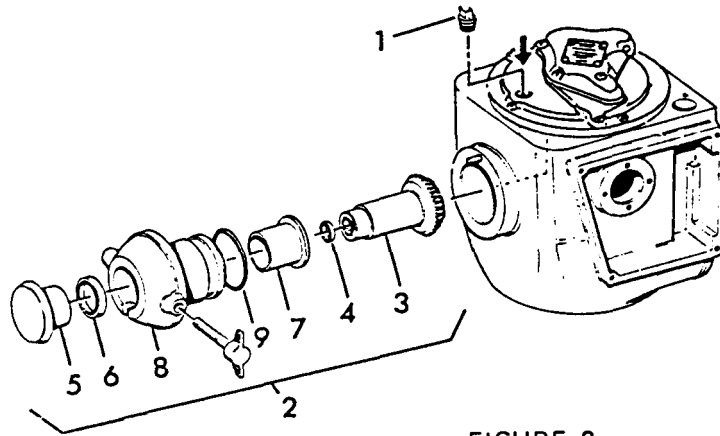

FIGURE 2
- A. REMOVE OIL FILLER PLUG (1, FIGURE 2), INSERT 3/8 INCH LONG STEMMED ALLEN WRENCH DOWN THROUGH FILLER PLUG HOLE AND LOOSEN SETSCREW (APPROX. 3 TURNS). WITH SCREWDRIVER BETWEEN HUB (8) AND TRANSMISSION HOUSING, PRY HUB ASSEMBLY (2) OUT OF TRANS. LIGHT HAMMER TAPS AGAINST BACK OF HUB MAY BE REQUIRED.